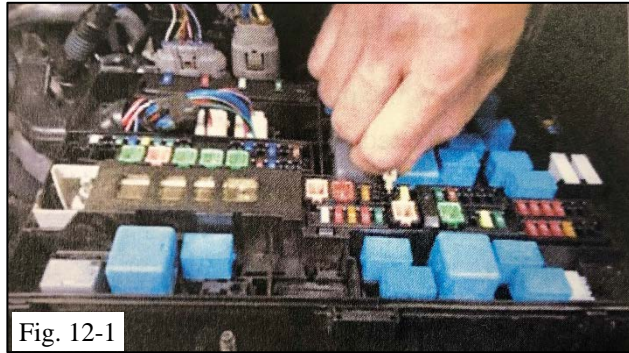

Fig. 12-1
- (a) Remove the short pin fuse in the engine room R/Band J/B located inside the engine compartment (Fig. 12-1).